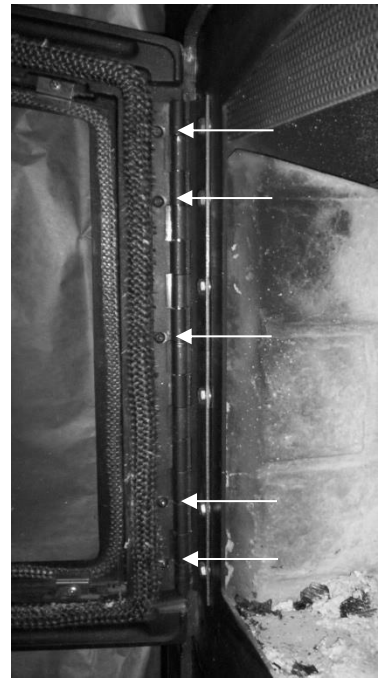

Figure 7 Hinge Adjustment on the Door
1. To tighten the left side of the door, slightly loosen the screws holding the hinge to the door (see Figure 7).